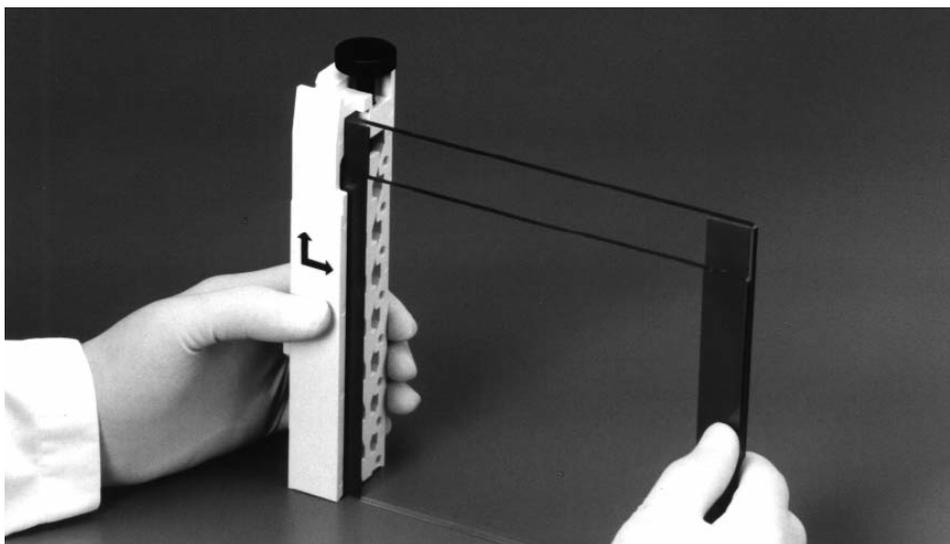

Fig. 5.3. Attaching the clamps to the glass plate assembly.
4. Grasp the gel sandwich firmly. Guide the left and right clamps onto the sandwich so that the long and short plates fit the appropriate notches in the clamp (Figure 5.3). Tighten the screws enough to hold the plates in place.